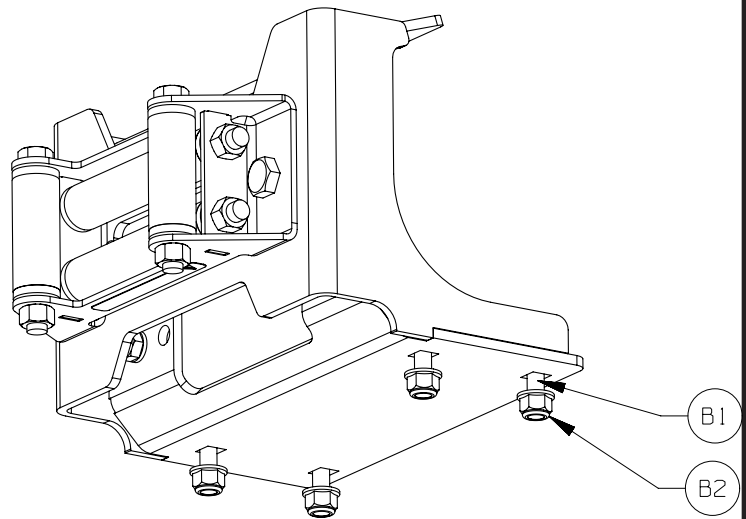

Figure 2
4. Carriage bolts (B1) need to be placed prior to installing winch. Use nuts (B2) to temporarily secure carriage bolts while installing winch. See figure 2.